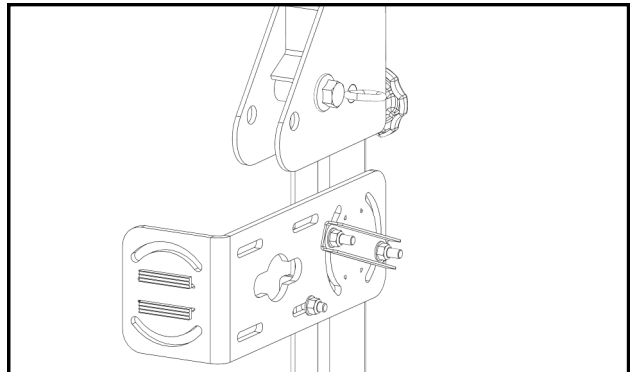

Fig. 2 (Bracket on outside of ROPS, facing inwards)
2. Figure 2 shows a ROPS bracket mounted to the outside surface of a vehicle ROPS with the bar mounting surface facing inwards. The bracket can be flipped so that the bar mounting surface is facing outwards.